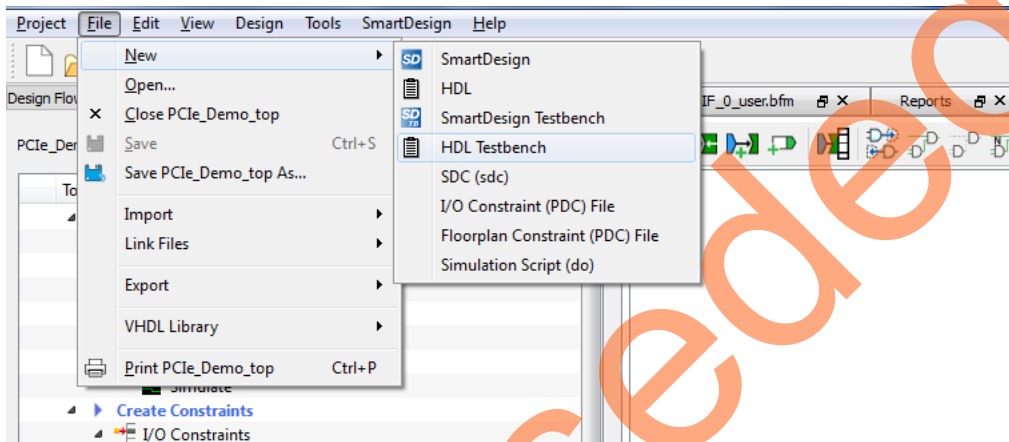

Figure 48 • HDL Testbench
- a. From the **File** menu, choose **New > HDL Testbench** as shown in Figure 48.